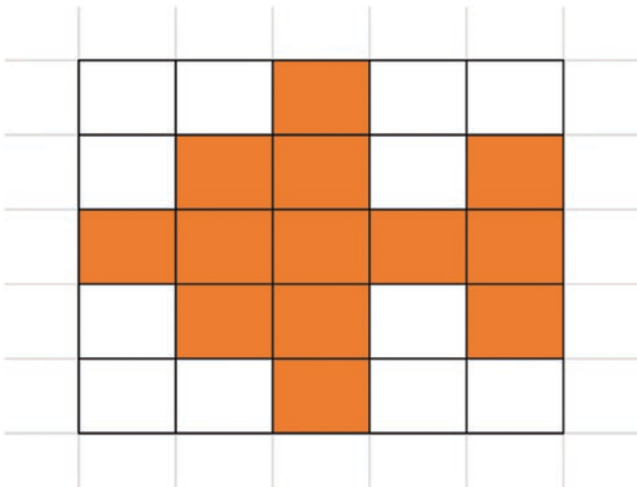

Figure 2-6. Creating the shape of a fish
1. Draw a 5x5 grid on paper and fill each square so that it forms the shape of a fish (see Figure 2-6).